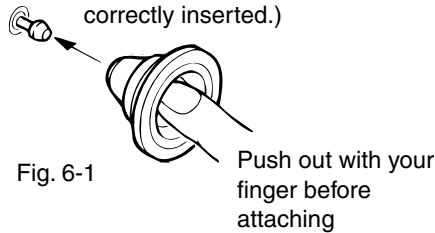

Fig. 6-1
1. Remove the four damper bracket fixing screws (2) to remove the damper brackets.
2. Pull out the dampers, being careful not to damage them. When re-attaching a damper, insert your finger to push out the center of the damper to mount it on the damper shaft, as shown in Fig. 6-1.